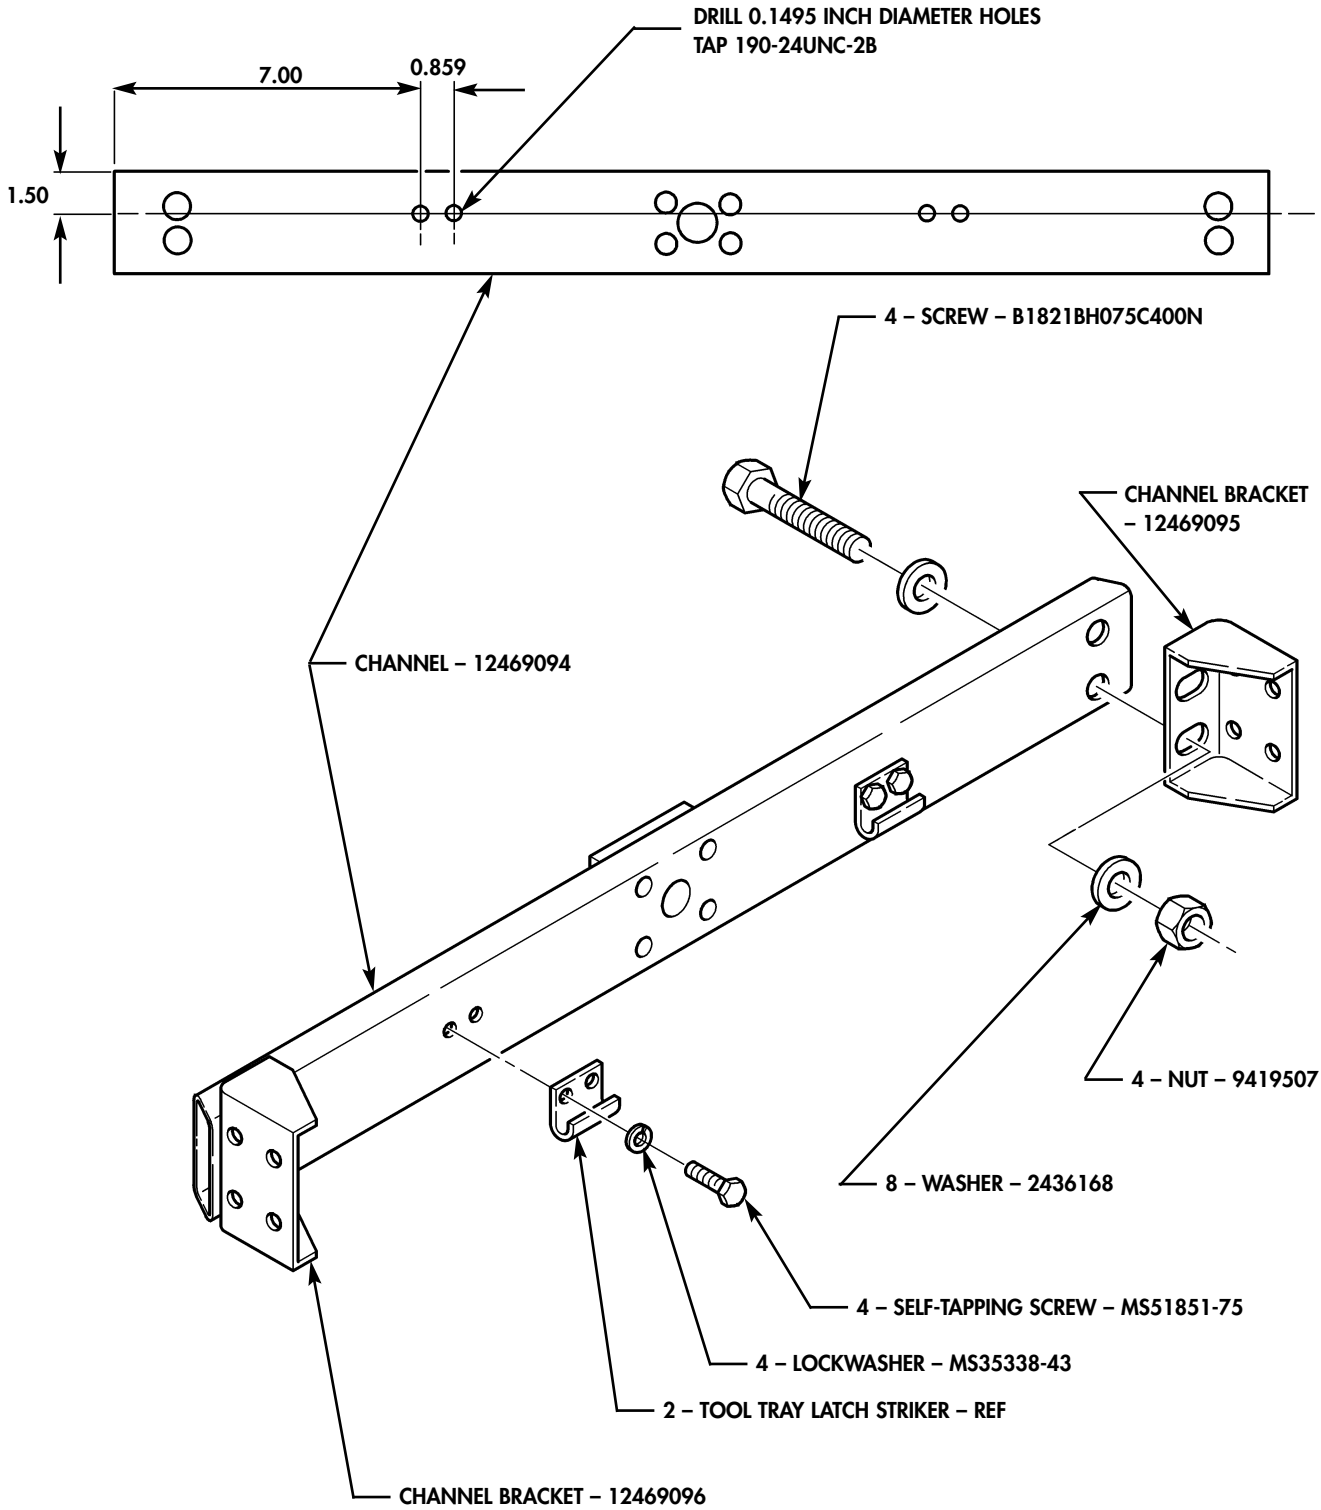

FIGURE 6
- (1) In the event tool latch striker holes have not been added to channel 12469094, locate, mark, and drill four 0.1495-inch (#25 drill bit) holes in channel as shown in figure 6. Tap holes to .190-24UNC-2B.
- (2) Install 12469094 channel on 12469096 and 12469095 channel brackets with four B1821BH075C400N screws, eight 2436168 washers, and four 9419507 nuts as shown in figure 6. Do not tighten nuts.
- (3) Install two existing tool tray latch strikers on channel with four MS51851-75 self-tapping screws and MS35338-43 lockwashers as shown in figure 6.
- (10) Tighten nuts installed in step 1 as shown in figure 6.